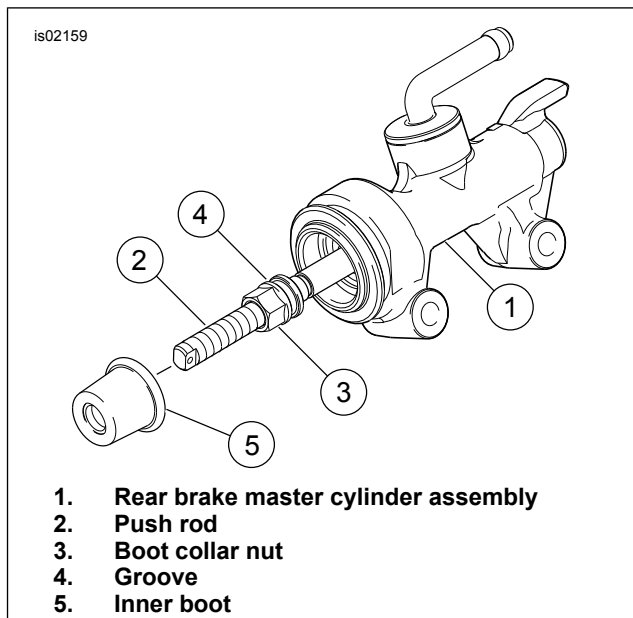

Figure 6. Lubricating and Installing Inner Boot
9. Secure push rod assembly with new retaining ring (10). Verify that retaining ring is fully seated in groove. Unthread shoulder nut from push rod.
10. See Figure 6. Apply approximately 0.1 g of G40M brake grease around groove (4) in boot collar nut (3). Carefully slide inner boot (5) down onto push rod (2) and into end of master cylinder bore. Press lip of inner boot down around groove in boot collar nut.